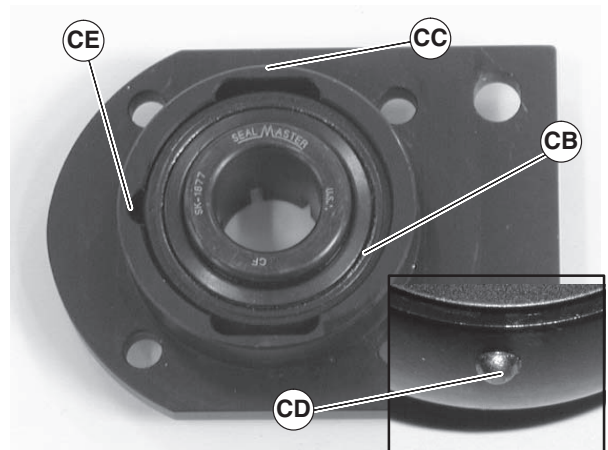

Figure 63
2. Insert bearing (Figure 63, item CB) into housing slot (CC). Locate anti-rotation nub (CD) to align with slot (CE), and twist bearing into housing.